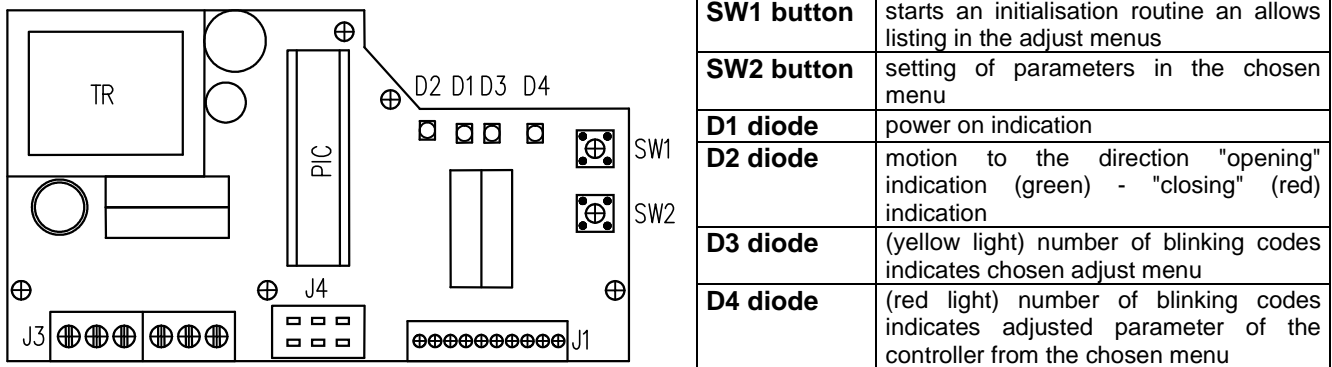

Fig. 9
4.6 Adjustment of position controller (Fig. 9)
Laying of adjusters and signalling elements on the board of the REGADA controller is shown on Fig.9: